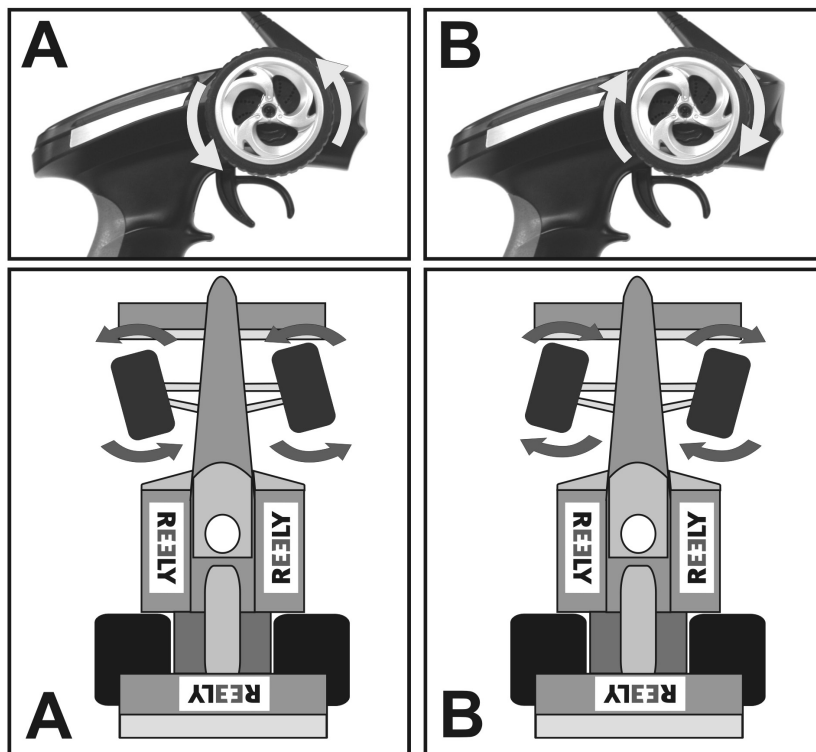

Figure 11
If you are turning the steering wheel at the transmitter to the left, the wheels at the vehicle must deflect to the left (see figure 11, sketches A). If you are steering to the right, the wheels must turn to the right (see figure 11, sketches B).
If the wheels react opposite to the direction indicated in figure 11, use the steering function reverse switch (15) to switch the effective direction of the steering wheel and thus the steering servo rotational direction.